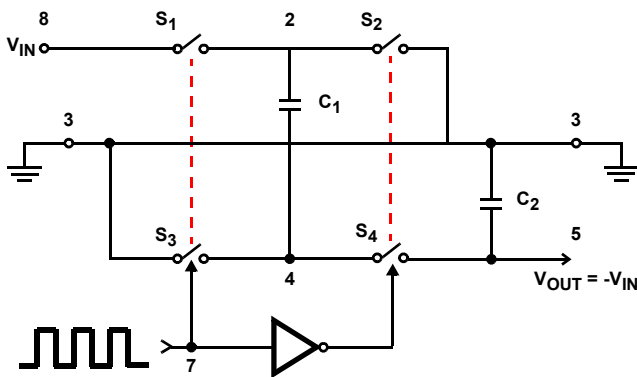
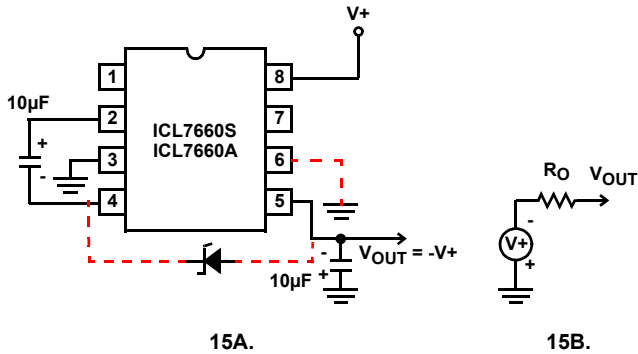
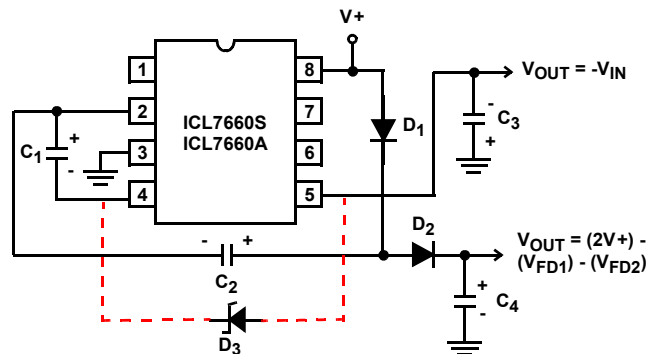

FIGURE 14. IDEALIZED NEGATIVE VOLTAGE CONVERTER
FIGURE 15. SIMPLE NEGATIVE CONVERTER AND ITS OUTPUT EQUIVALENT
FIGURE 19. COMBINED NEGATIVE VOLTAGE CONVERTER AND POSITIVE DOUBLER
The ICL7660S and ICL7660A contain all the necessary circuitry to complete a negative voltage converter, with the exception of two external capacitors, which may be inexpensive 10 μ F polarized electrolytic types. The mode of operation of the device may best be understood by considering Figure 14, which shows an idealized negative voltage converter. Capacitor C₁ is charged to a voltage, V⁺, for the half cycle, when switches S₁ and S₃ are closed. (Note: Switches S₂ and S₄ are open during this half cycle). During the second half cycle of operation, switches S₂ and S₄ are closed, with S₁ and S₃ open, thereby shifting capacitor C₁ to C₂ such that the voltage on C₂ is exactly V⁺, assuming ideal switches and no load on C₂. The ICL7660S and ICL7660A approach this ideal situation more closely than existing non-mechanical circuits.
In the ICL7660S and ICL7660A, the four switches of Figure 14 are MOS power switches; S₁ is a P-Channel device; and S₂, S₃ and S₄ are N-Channel devices. The main difficulty with this approach is that in integrating the switches, the substrates of S₃ and S₄ must always remain reverse biased with respect to their sources, but not so much as to degrade their “ON” resistances. In addition, at circuit start-up, and under output short circuit conditions (V_{OUT} = V⁺), the output voltage must be sensed and the substrate bias adjusted accordingly. Failure to accomplish this would result in high power losses and probable device latch-up.
where V₁ and V₂ are the voltages on C₁ during the pump and transfer cycles. If the impedances of C₁ and C₂ are relatively high at the pump frequency (see Figure 14) compared to the value of R_L, there will be a substantial difference in the voltages, V₁ and V₂. Therefore it is not only desirable to make C₂ as large as possible to eliminate output voltage ripple, but also to employ a correspondingly large value for C₁ in order to achieve maximum efficiency of operation.
The majority of applications will undoubtedly utilize the ICL7660S and ICL7660A for generation of negative supply voltages. Figure 15 shows typical connections to provide a negative supply where a positive supply of +1.5V to +12V is available. Keep in mind that pin 6 (LV) is tied to the supply negative (GND) for supply voltage below 3.5V.
The output characteristics of the circuit in Figure 15 can be approximated by an ideal voltage source in series with a resistance as shown in Figure 15B. The voltage source has a value of $-(V_+)$. The output impedance (R_O) is a function of the ON resistance of the internal MOS switches (shown in Figure 14), the switching frequency, the value of C_1 and C_2 , and the ESR (equivalent series resistance) of C_1 and C_2 . A good first order approximation for R_O is shown in Equation 2:
Figure 19 combines the functions shown in Figure 15 and Figure 18 to provide negative voltage conversion and positive voltage doubling simultaneously. This approach would be suitable, for example, for generating +9V and -5V from an existing +5V supply. In this instance, capacitors C_1 and C_3 perform the pump and reservoir functions, respectively, for negative voltage generation, while capacitors C_2 and C_4 are pump and reservoir, respectively, for the doubled positive voltage. There is a penalty in this configuration which combines both functions, however, in that the source impedances of the generated supplies will be somewhat higher, due to the finite impedance of the common charge pump driver at pin 2 of the device.
resistor to the LV pin ensures start-up. Because the switches share the load in parallel, the output impedance is much lower than in the standard circuits, and higher currents can be drawn from the device. By using this circuit, and then the circuit of Figure 15, +15V can be converted, via +7.5 and -7.5, to a nominal -15V, although with rather high series output resistance (~250Ω).